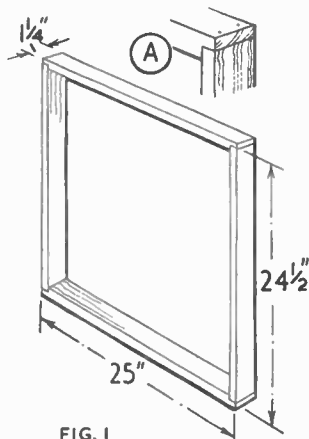

FIG. 1
The construction is simple, and the wood required but a small quantity. The face and back of the cabinet can be made of plywood or plywood substitute. Make up two frames to the dimensions given in Fig. 1, the corner joints being cut as at (A). Both must be identical, so careful measurement is essential. The ends of the top and bottom parts are reduced to half thickness where they join the sides. Wood of $\frac{1}{2}$ in. thickness should be employed, as this is quite strong enough, without being too heavy for a light job.